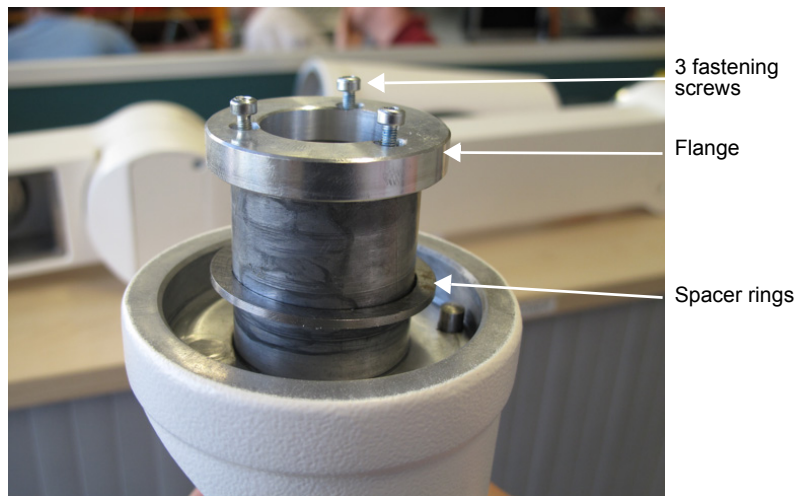

Fig. 12-8 Items for attachment of the Solo Center
- Apply the spacer rings and the flange to the Solo Center using three screws (→ Fig. 12-8).